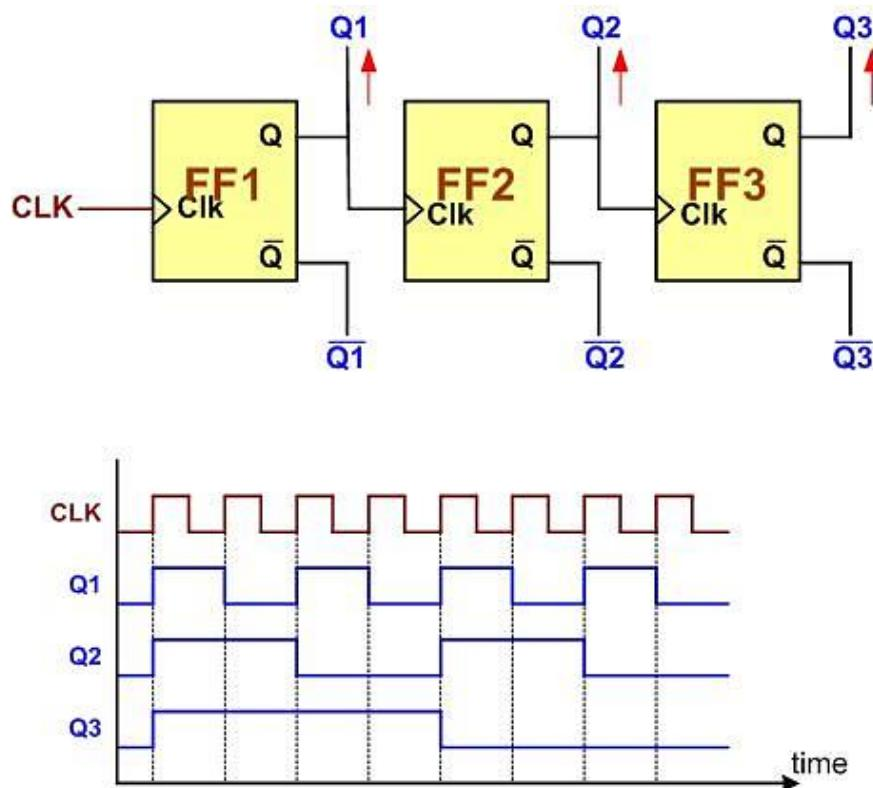

Figure 11-1: A 3-bit Counter
In the digital design course, you connected many flip flops (FFs) together to create up counter/down counter. For example, connecting 3 FFs together we can count up to 7 (000-111 in binary). This is called *3-bit counter*. The same way, to create a 4-bit counter (counting up to 15, or 0000-1111 in binary) we need 4 FFs. For 16-bit counter, we need 16 FFs and it counts up to  $2^{16} - 1$ . Figure 11-1 shows the T flip flop connection and pulse outputs for all three flip flops.
Regarding Figure 11-1, notice the following points:
- 4) We can use the circuit in Figure 11-1 to divide clock frequency.
- 5) We can use the circuit in Figure 11-1 to count the number of pulses fed to CLK pin of FF1.